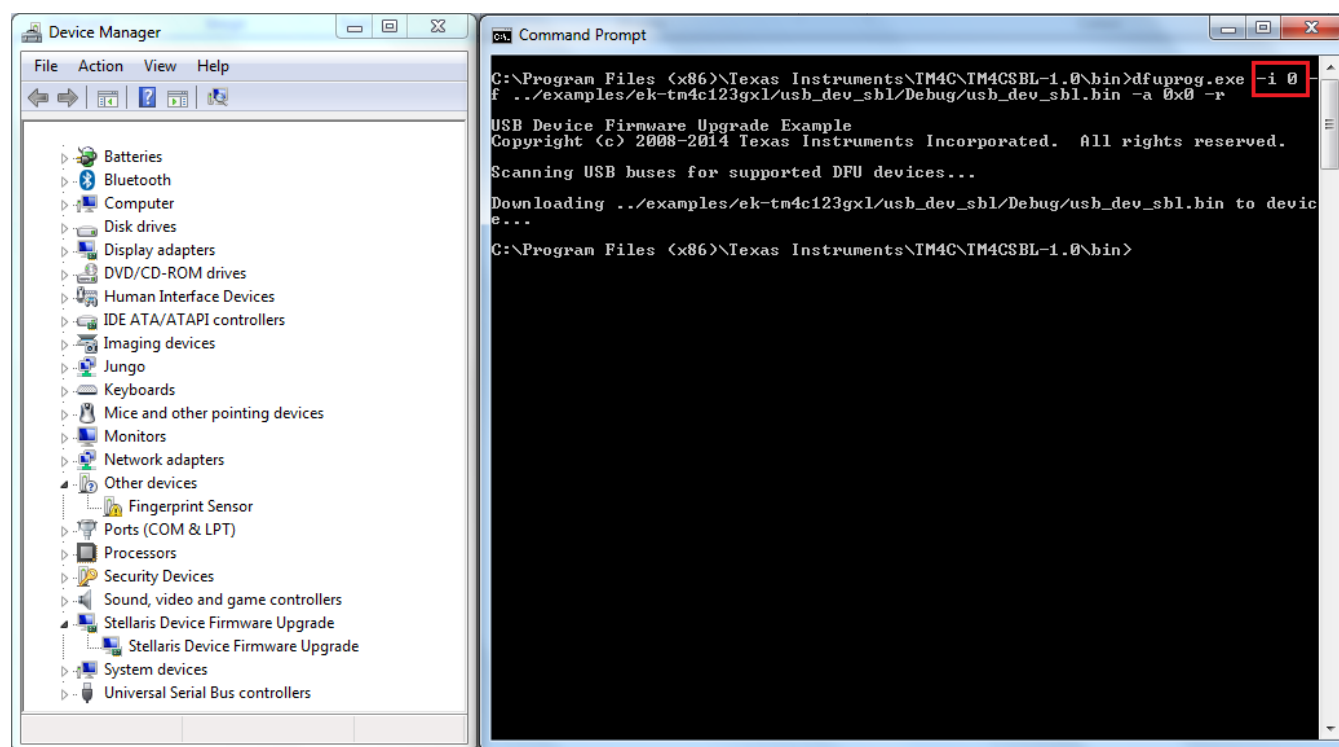

Figure 31. Downloading Programmer Application Image
4. In the command window, run the command “dfuprog.exe -i <DEV NUMBER> -f ../examples/ek-tm4c123gxl/usb_dev_sbl/Debug/usb_dev_sbl.bin -a 0x0 -r”. This step uploads the programmer application image to the programmer board, as shown in Figure 31. There must not be any error message in the command window.